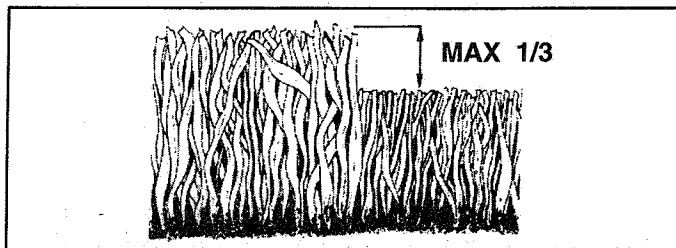

FIG. 5
- For best results, adjust the lawn mower cutting height so that the lawn mower cuts off only the top one-third of the grass blades (See Fig. 5). If the lawn is overgrown it will be necessary to raise the height of cut to reduce pushing effort and to keep from overloading the engine and leaving clumps of mulched grass. For extremely heavy mulching, reduce your width of cut, mow slowly and raise the rear of the lawn mower one wheel adjuster setting higher than the front.